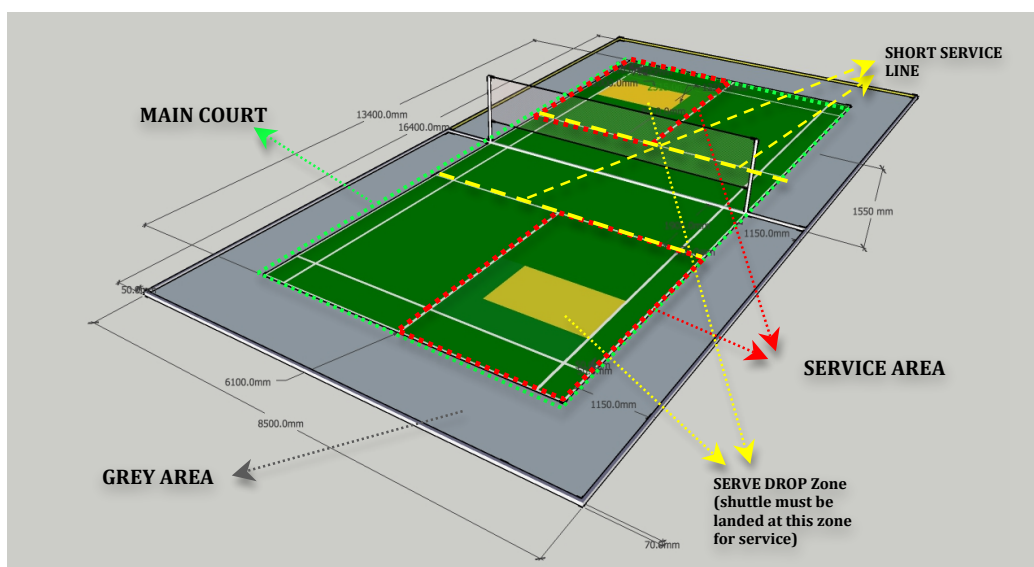

Figure 4: A perspective view of contest field (court).
- 4.4.9. The shuttle that has been hit must travel over the net (without touching the net) and land on the opponent team's serve drop zone (Refer to Fig.4). However it doesn't apply if the opponent team hits back the shuttle or the shuttle should come into contact with the opponent's robot (if operated by cables, including the cable and its operator).